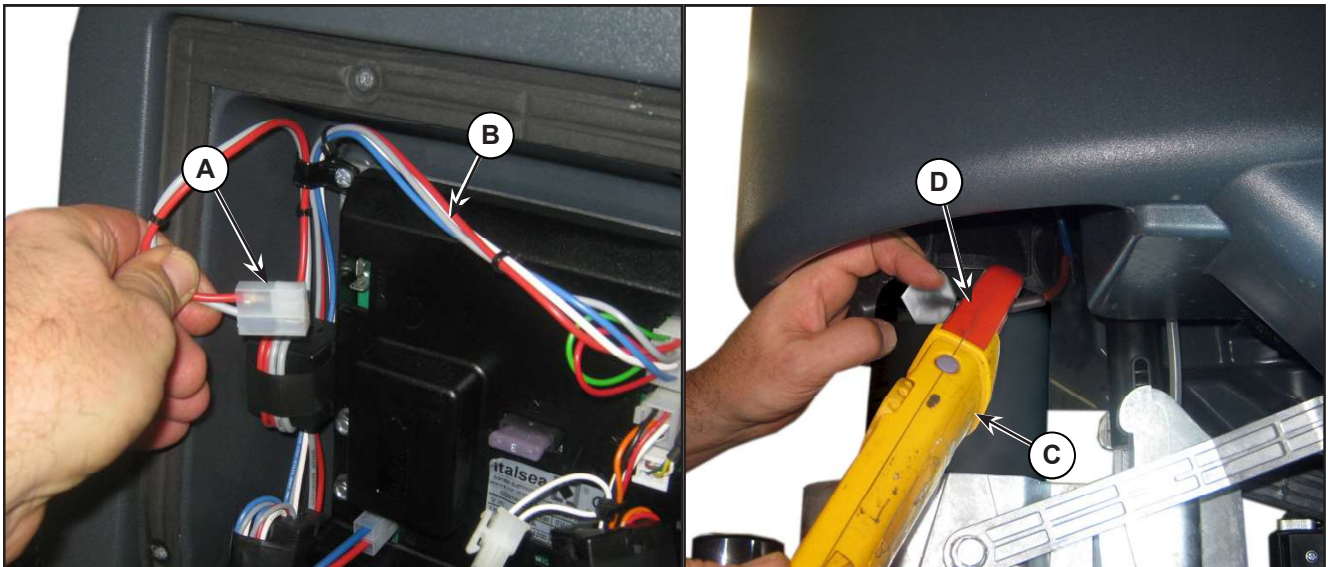

Figure 6:
4. Disconnect the drive system connector (A) (Figure 6) on the Main machine controller (B) to disable machine movement.
7. Apply the amperometric clamps (C) to an electrical wire (D) of the motor.
10. Remove the Amp clamp (C).